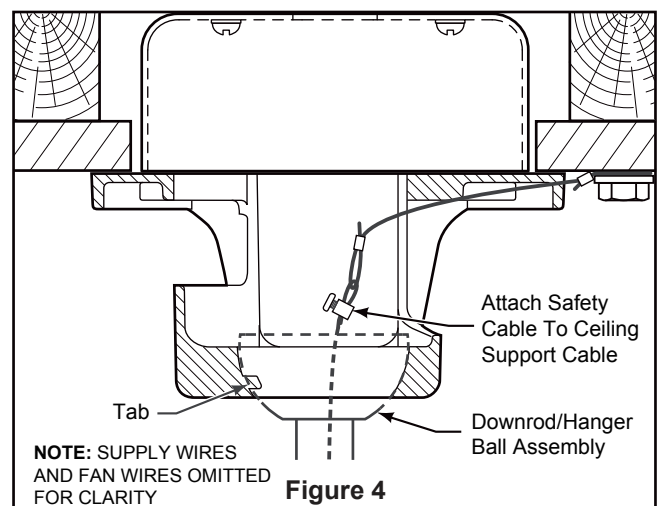

Figure 4
4. Loosen the two set screws and locking nuts in the downrod support of the motor assembly. Route the brown, blue, red, gray, yellow wires and safety cable through the downrod. (Figure 4)
4. Carefully lift the fan and seat the downrod/hanger ball assembly onto the hanger bracket that was just attached to the outlet box. Be sure the groove in the ball is lined up with tab on the hanger bracket. (Figure 4)
5. Attach the safety cable to ceiling support cable. Slide cable clamp and washer onto safety cable (from fan). Place the end of cable through the loop of ceiling support cable. Pull as much cable through loop as possible. Feed end of cable into clamp hole and firmly tighten screw. (Figure 4)
3. Connect wires using connectors as shown in Figure 4.
4. To make fan operational, install two 3V batteries (included) in hand-held remote transmitter, with fan power off. Then, follow the remote code setting process. If not used for long periods of time, remove battery to prevent damage to transmitter. Store the remote away from excessive heat or humidity. (Figure 4)